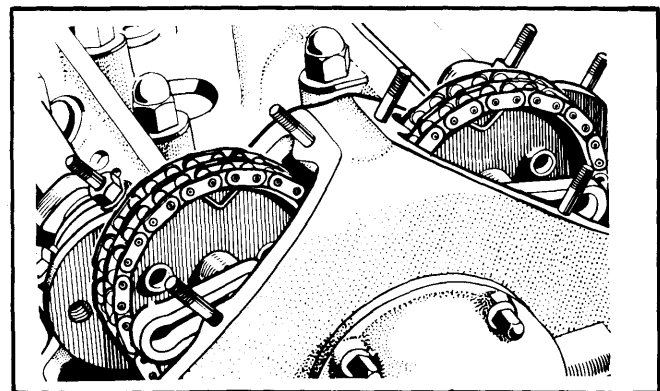

Fig. 14 View Shows Camshaft Sprockets in Disconnected Position
3) Accurately position camshafts with valve timing gauge (Fig. 14), and check that TDC marks are in exact alignment. Withdraw circlips from camshaft sprocket assembly and press adjusting plates forward until serrations disengage (Fig. 14).